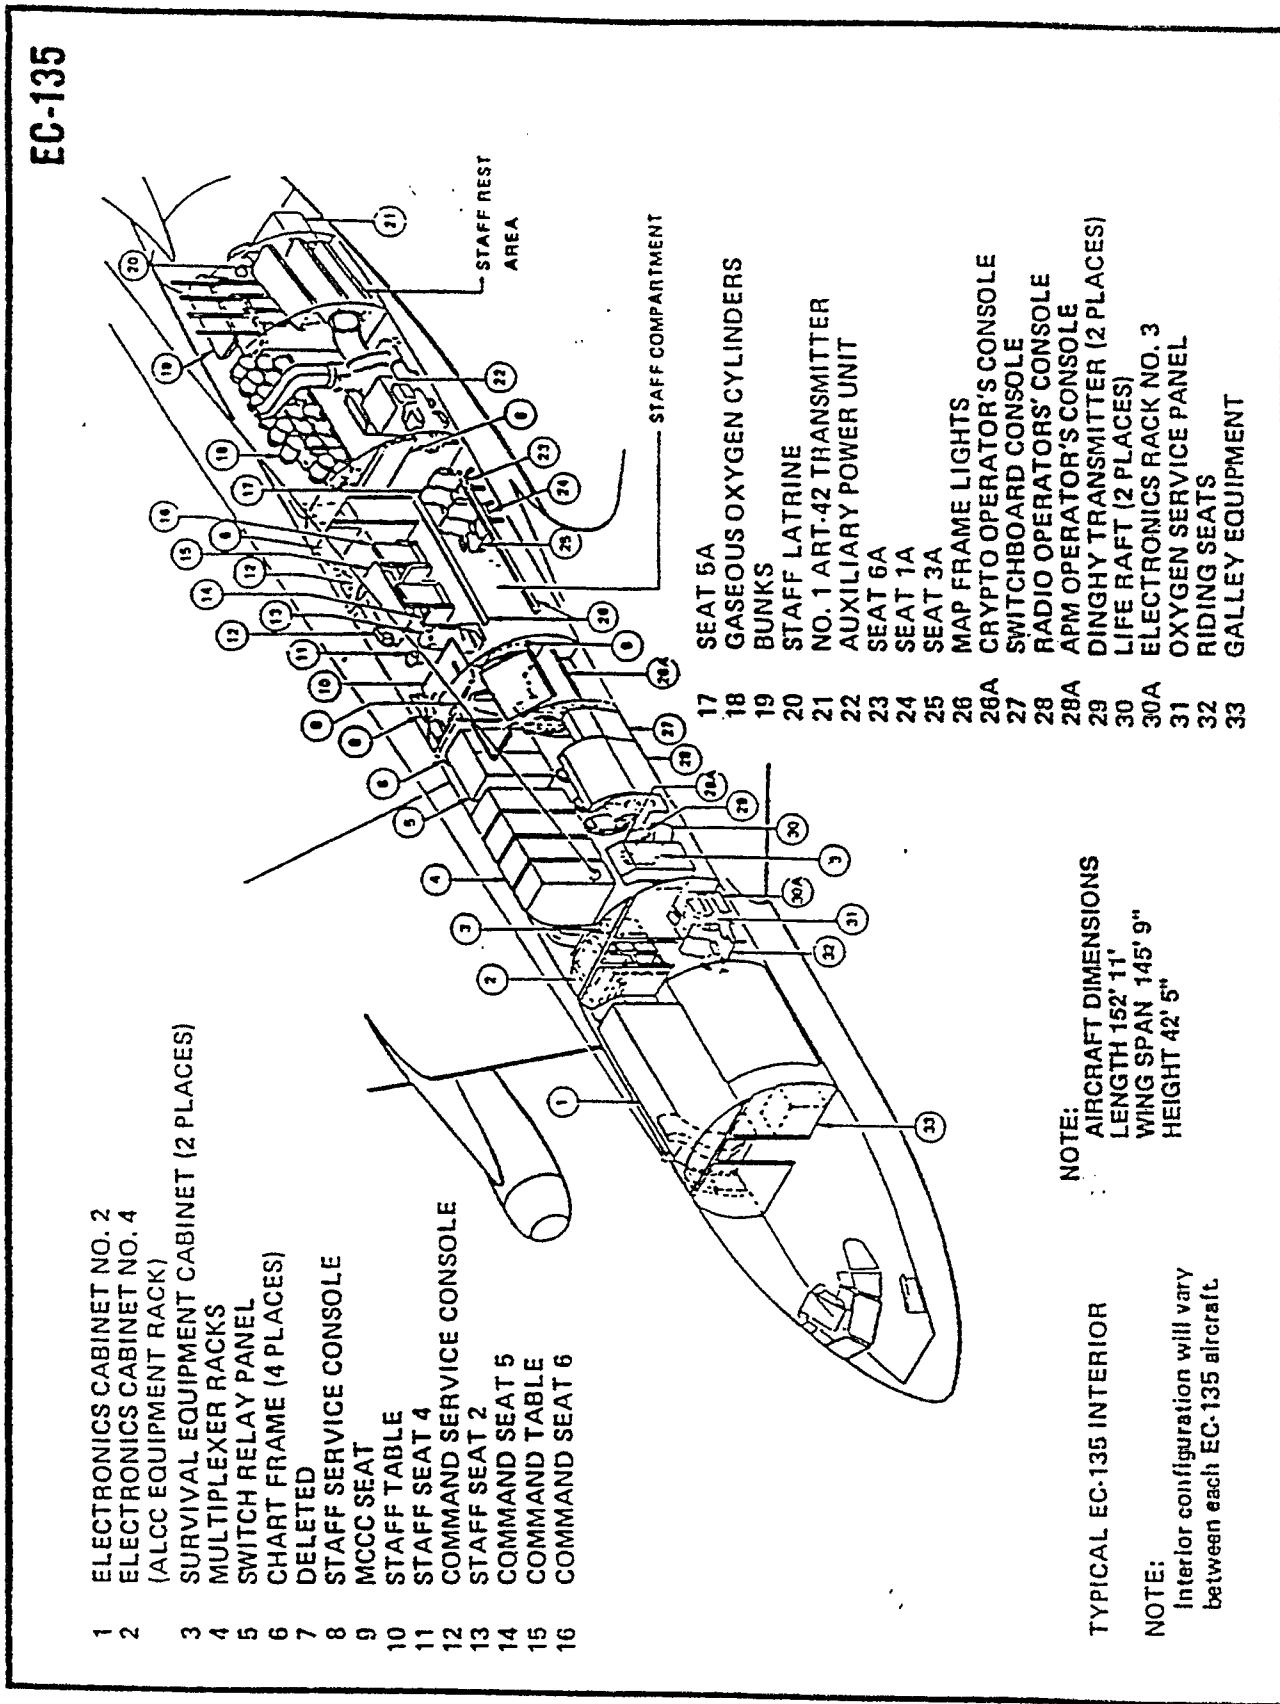

FIGURE 5. Example of cabin arrangement and aircraft dimensions.
10.3.8 Cabin layout. Illustrations and information for cabin layout, crewmember and passenger configurations, capacity and any possible locations outside the normal seating arrangements, i.e. galley, latrine, equipment, and maintenance areas or bays, etc. (see Figure 5).